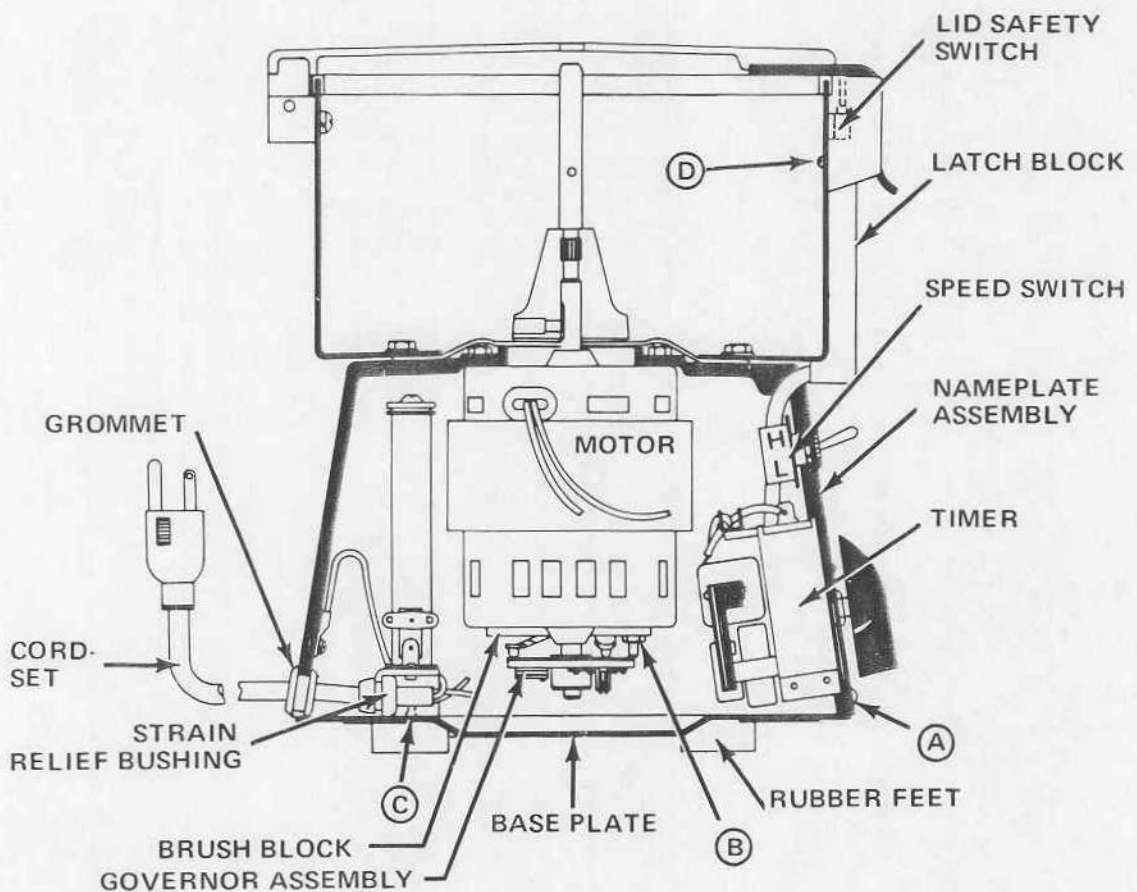

Figure 12. Cutaway View of SERO-FUGE II Centrifuge.
1. Referring to Figure 12, turn the centrifuge over, remove the four rubber feet and baseplate; remove the four screws "A" holding the front Nameplate Assembly to the base and pull Assembly out.
1. Referring to Figure 12, remove the two nuts "B" from the Motor housing; remove brush block and disconnect wires from brush block terminals.
2. Referring to Figure 12, remove the two screws (C) securing the Resistor Mounting Assembly and Bracket to the base; pull the bracket and assembly out of the machine.
1. Referring to Figure 12, remove the four screws (D) which secure the Latch Block to the guard bowl.